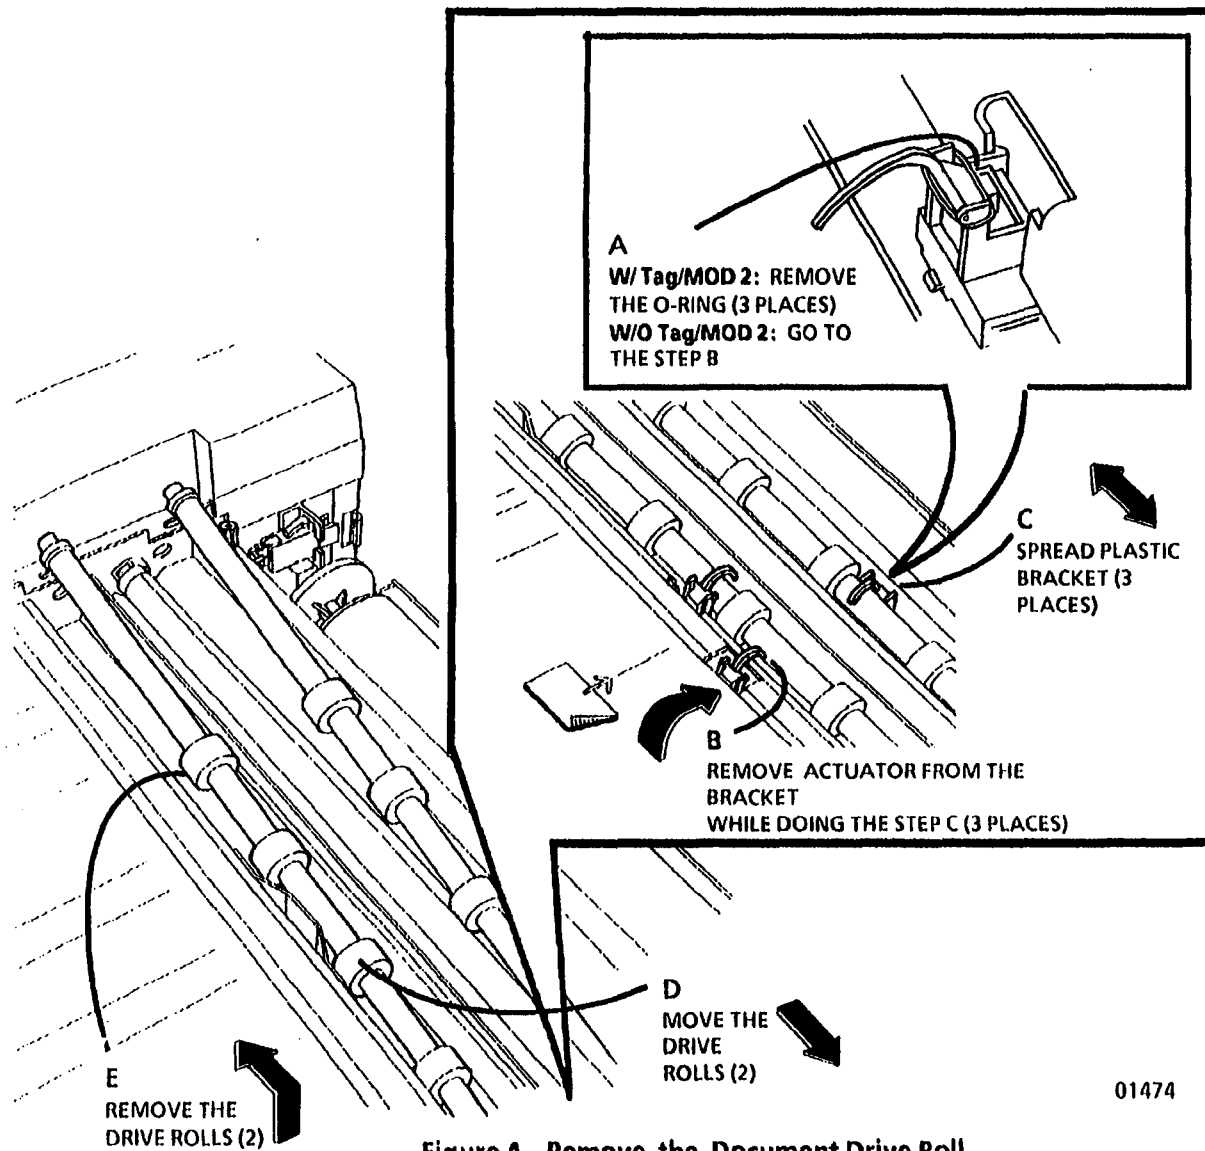

Figure 4. Remove the Document Drive Roll
9. (Figure 4): Remove the Document Drive Rolls.